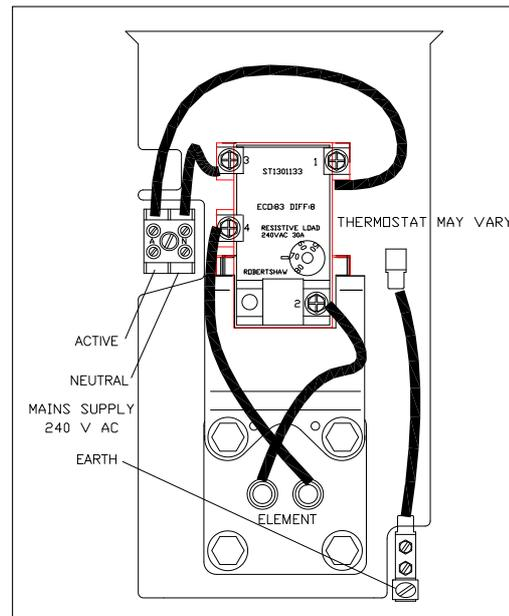

Figure 29 - Wiring detail
- Connections for elements **Figure 29** shows the wiring detail for the water heater.